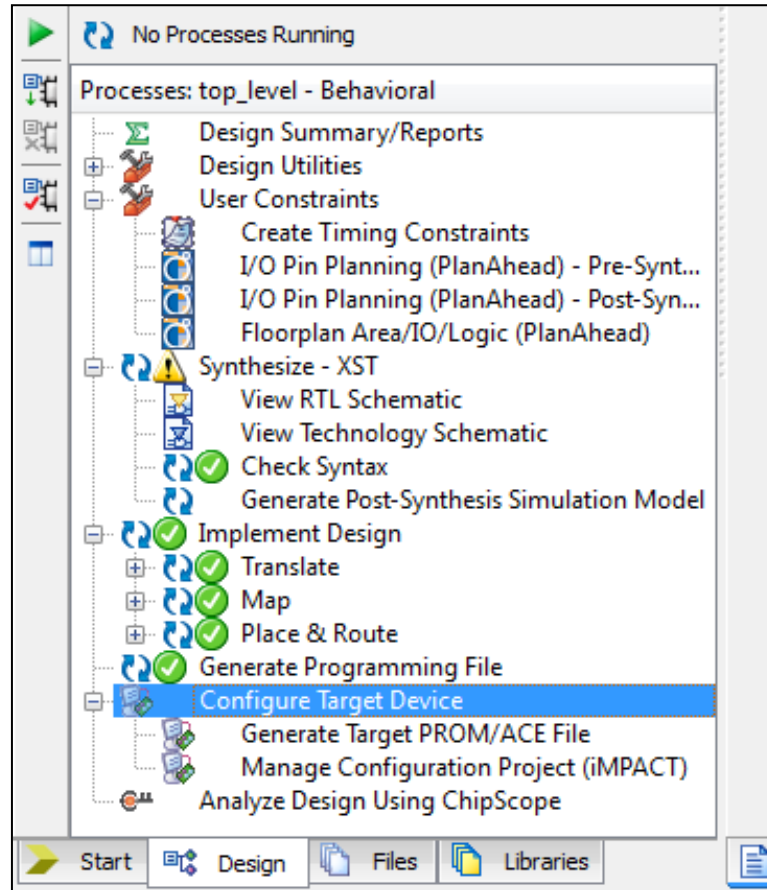

Figure 5.37: Portion of Project Navigator screen, after Generate Programming File has successfully been run.
2. Double-click on **Generate Programming File**. When this has successfully run, a green tick will appear next to **Generate Programming File** as shown in Figure 5.37.